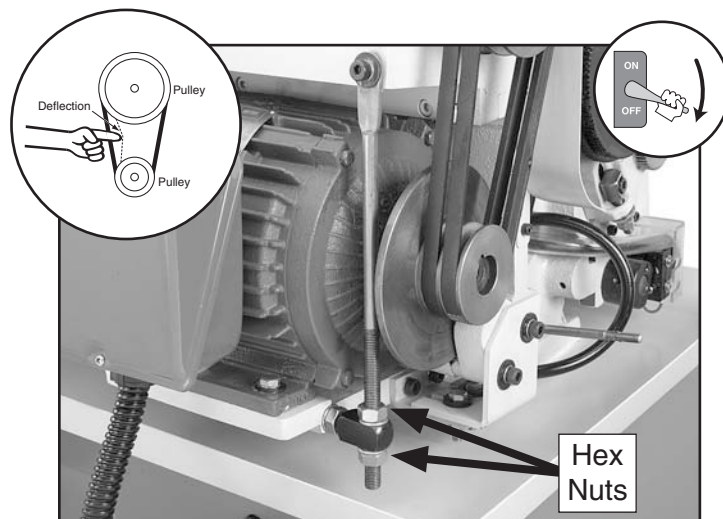

Figure 130. V-belt tension adjustment hex nuts (viewed with headstock left cover removed).
- Adjust the hex nuts shown in **Figure 130** in even amounts to lower the motor assembly until there is approximately $\frac{3}{8}$ " deflection on each belt when moderate pressure is applied between the pulleys.